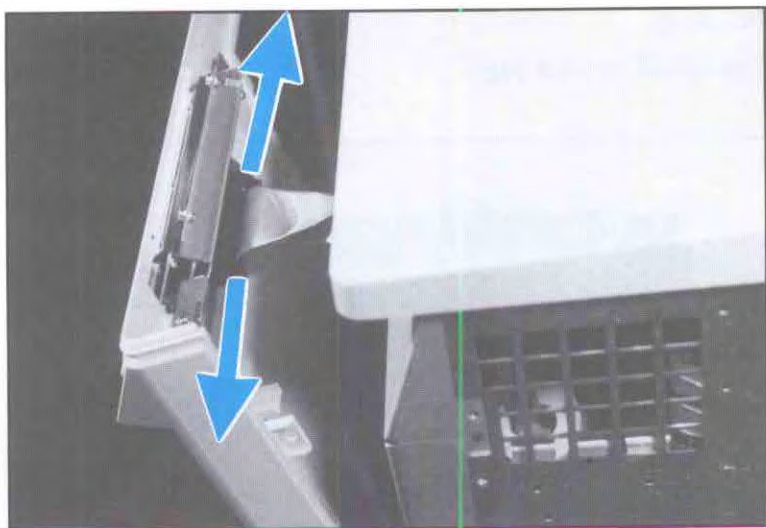

Figure 6-7. Front Cover (continued)
8. Tilt the cover outward at the top to access and unplug the Control Panel connector (push connector clips outward to release). Remove the Front Cover (see Figure 6-7).